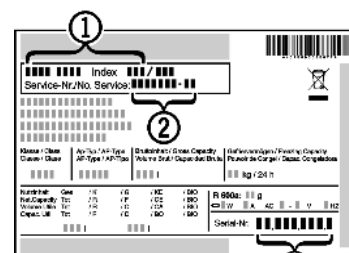

Fig. 44
- ▶ Read off the appliance name *Fig. 44 (1)*, service no. *Fig. 44 (2)* and serial no. *Fig. 44 (3)* from the model plate. The model plate can be found on the inside of the appliance on the left.